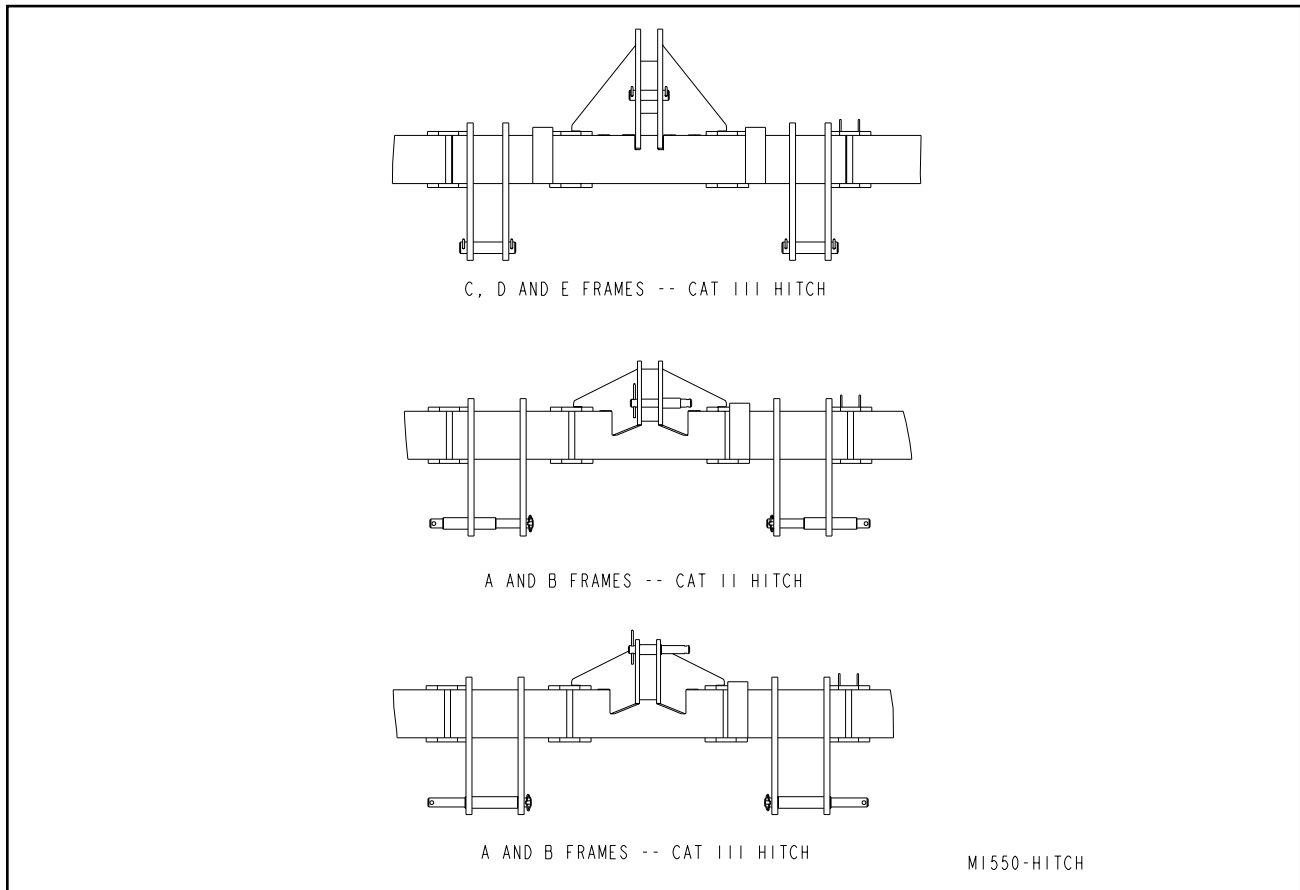

Figure 4-1 3 Point Hitch Setup
- a. Attach lower lift arms of the tractor to the In-row Ripper utilizing appropriate pins. A and B models come with either Category II or III wide hitches. C, D, and E models use only Category III wide hitch (**See Figure 4-1**).